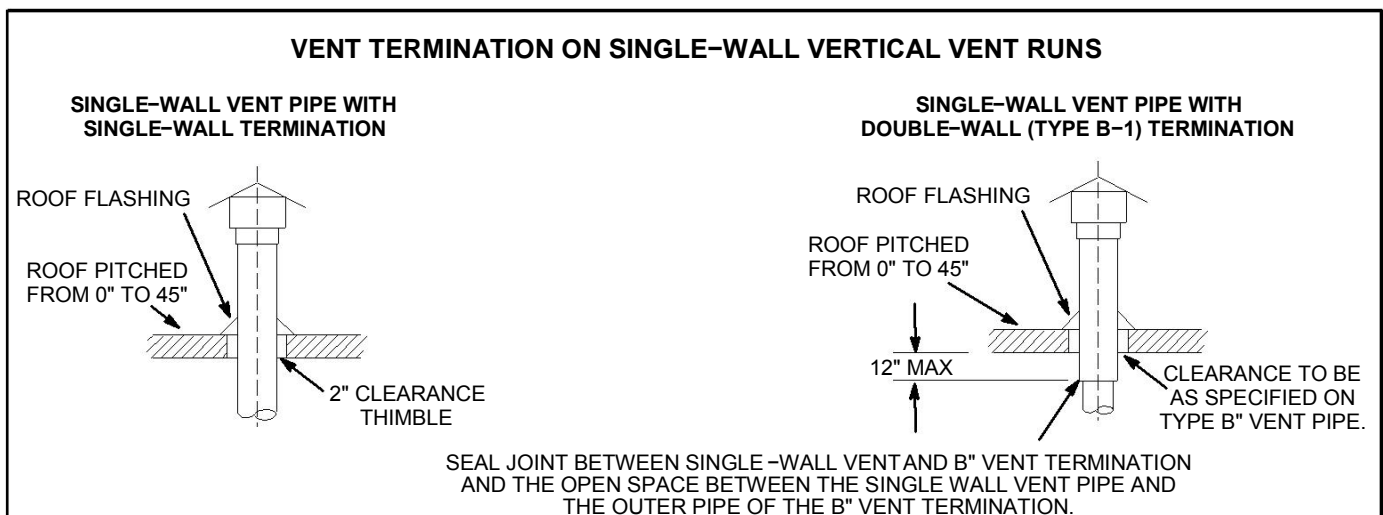

FIGURE 2
- 1 – All SEP unit heaters are to be used with NFPA- or ANSI-approved chimneys or U.L.-listed type B-1 gas vents where applicable, as well as the modifications and limitations listed in figure 2. Seal single-wall vent material according to **General Recommendations and Requirements section**.